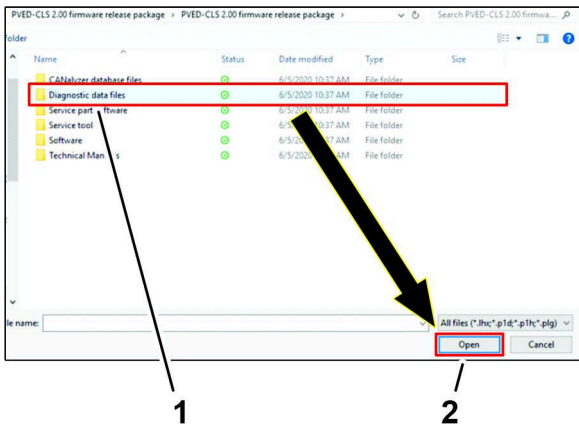

Figure 56
4. Click the Diagnostic data files folder, and click the OPEN icon (Figure 56).